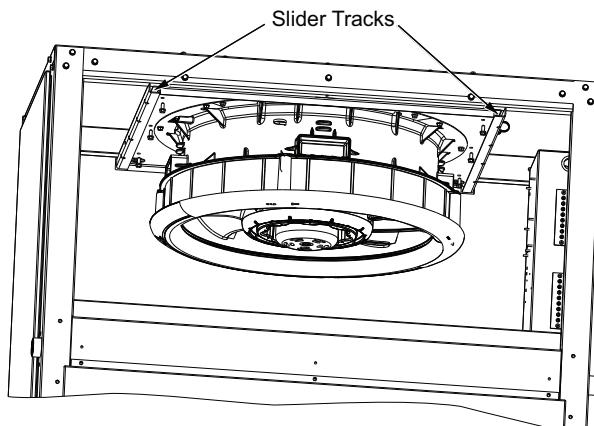

Fig. 48 – Lower Fan Deck Assembly to Slider Tracks
4. Allow the fan deck to drop into the slider tracks (careful not to pinch body parts when the fan drops) See Fig. 48.